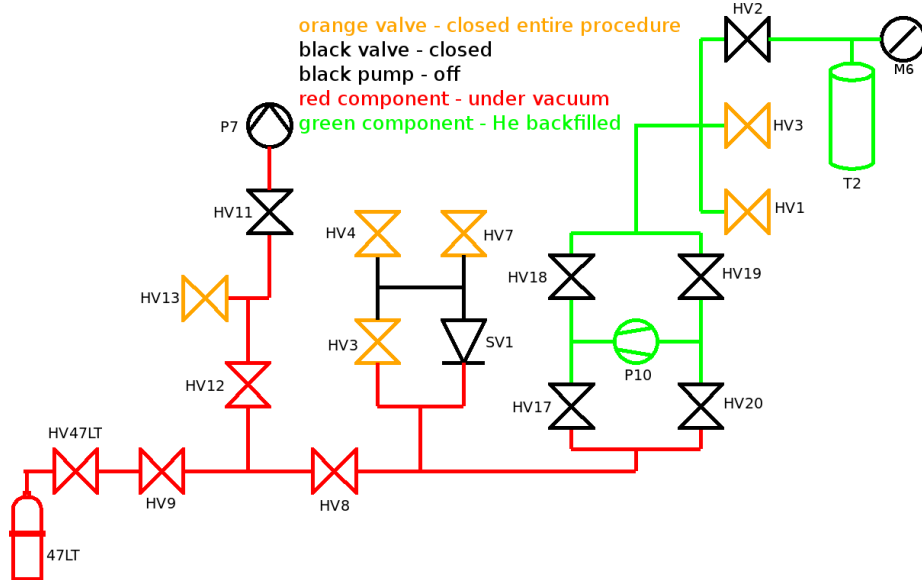

Figure 7: Isolate P10 and the ^3He tanks from the rest of the system.
7. Figure 7: when T2 stops rising and the pressure gauge on the pressurized cylinder reads a low vacuum, close HV20, turn off P10, then close HV18 and HV2.